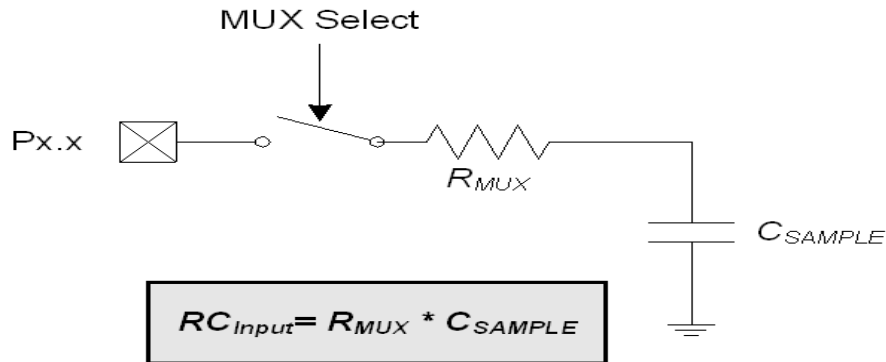

Figure 6.5. ADC0 Equivalent Input Circuit
Figure 6.5 shows the equivalent ADC0 input circuit. The required ADC0 settling time for a given settling accuracy (SA) may be approximated by Equation 6.1. When measuring the Temperature Sensor output, use the settling time specified in Table 5.10 on page 51. When measuring V_{DD} with respect to GND, R_{TOTAL} reduces to R_{MUX} . See Table 5.9 for ADC0 minimum settling time requirements as well as the mux impedance and sampling capacitor values.